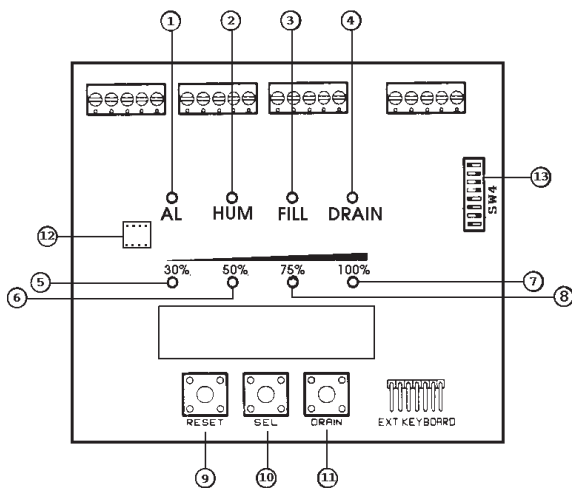

Figure 6 - Humidifier controller PCB
5. Select the required percentage of steam production by depressing the selection button until the relevant LED (LED's 5 to 8 in figure 6) illuminates.
When a call for humidification is sent to the humidifier controller, it may respond by signalling a pre-alarm or an alarm condition. These pre-alarms/alarms are indicated by the illumination of the red Alarm LED and a combination of the 4 percentage steam production LED's (LED's 5 to 8 in figure 6). The combination of the 4 percentage steam production LED's denotes a specific Error code, the meaning of which is given in the table overleaf.